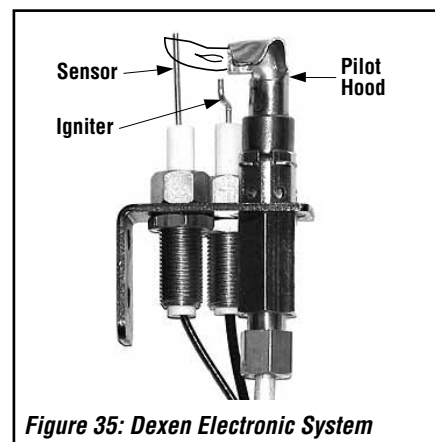

Figure 35: Dexen Electronic System
**Step 9.** Refer to **Figure 35**. Follow these steps to replace the pilot orifice: